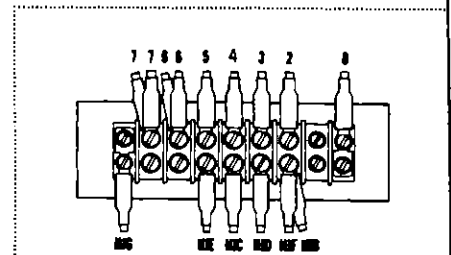

Figure 13-4. Heater Installation (South Wind)
13-8. REMOVAL OF HEATER. (Refer to Figure 13-4.)
13-9. INSTALLATION OF HEATER. (Refer to Figure 13-4.)
- a. Position the heater on its mounting brackets. Extend the exhaust tube (16) through and the lower end of the shroud, over the fitting that is attached to the bottom panel of the nose section.
- b. Connect the combustion air inlet hose to the combustion air blower (17) and secure with screw, washer and nut.
- e. Connect the ventilating air inlet hose (18) to the forward end of the heater and secure with clamp.
- f. Connect the fuel line (2) to the fuel control valve (3) and then replace valve cover.
- g. If the air distribution box (8) was not installed during heater build-up before installation, install the box and secure with screws.
- h. If the air heat control cable (10) was disconnected from the air distribution box (8), connect the cable at the valve arm and on the box. Position the cable wire and shroud to allow the valve full travel in the box. Ascertain that the wire attachment assembly rotates freely on the valve arm.
- i. Also if disconnected, connect the cabin heat hoses (6) & (7), defroster cable (11) and hot air dump hose (12) on the air distribution box and secure with clamps.
- j. Connect the electrical leads to the terminal block of the heater as shown in Figure 13-4.